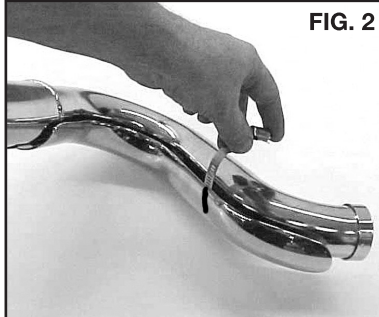

FIG. 2
1. Remove the header/muffler assembly and heat shields from the protective packaging. Place each heat shield on a non-abrasive surface, such as a blanket or carpet. Using a felt-tip pen, mark the outside edge of each heat shield to show the location of the mounting clips that the hose clamps will loop through. (FIG. 2)